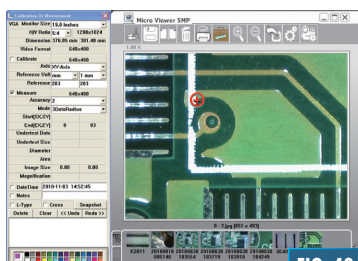

FIG. 49
4. Click and hold the right button of the mouse at the first point of the arc (Fig. 49).